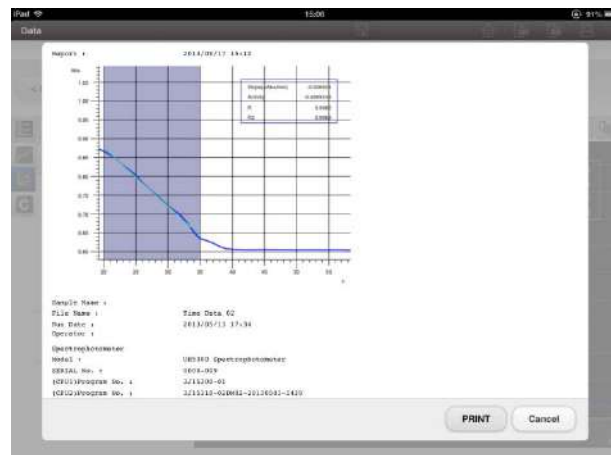

Fig. 4-158 Print Preview Window
- (3) Print preview (Fig. 4-158) will be shown.